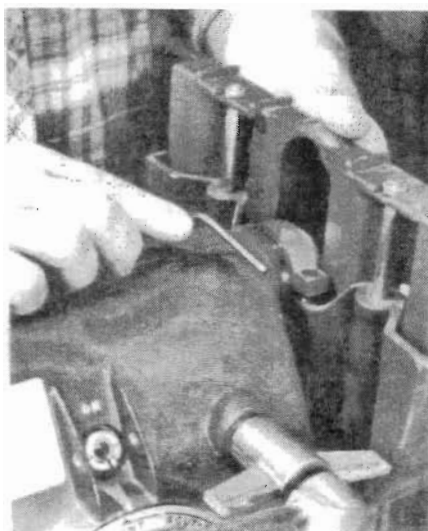

Figure 3. Place the lower saw guard on the quill, then tighten the Allen screws on the saw guard collar.
2. Mount the lower saw guard on the quill so that the collar on the guard butts up against the stop collar on the quill. With a 5/32" Allen wrench, tighten the two screws (27) on the collar. (See Figure 3.) Tighten each screw equally.
4. Mount the tie bar shield (20) over the two thumbscrews on the tie bar. Tighten the thumbscrews.
6. Install the upper saw guard by sliding the upper guard from left to right into the slots in the mounting block (17).